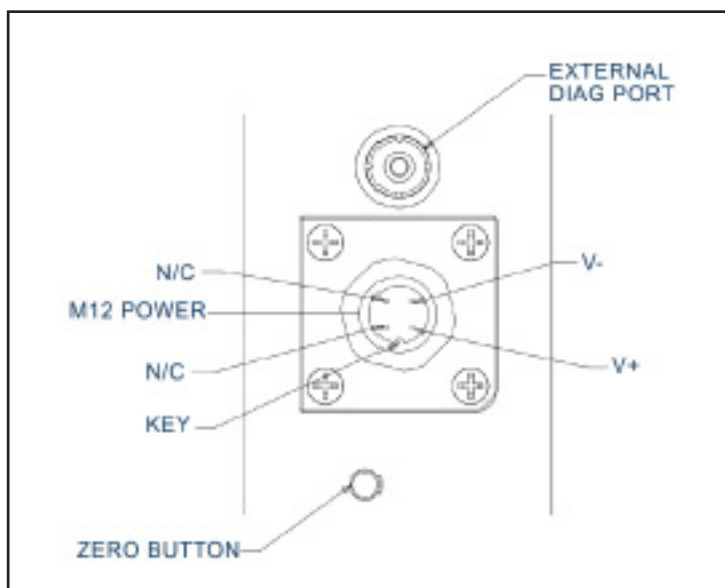

Figure 4-3 SLAMf Hazardous Area device side view with M12 Power connector
- 2.5 mm female jack for RS485 diagnostic port, which is located either under the top cover (SLAMf IP-66 only versions) or under the access screw on the inlet side of the device, just above the M12 power connection (shown in Figure 4-3).
- 4 pin M12 threaded Male (Euro Lock) Connector for power labeled “PWR” (figure 4-3).